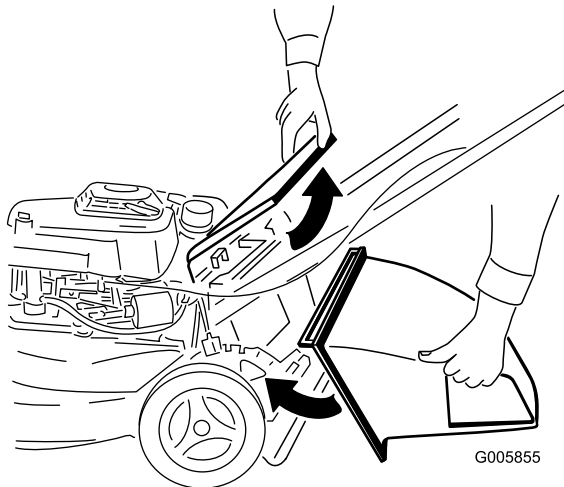

Figure 1
2. Raise and hold up the rear door (Figure 1).
3. Install the side discharge chute (Figure 1).